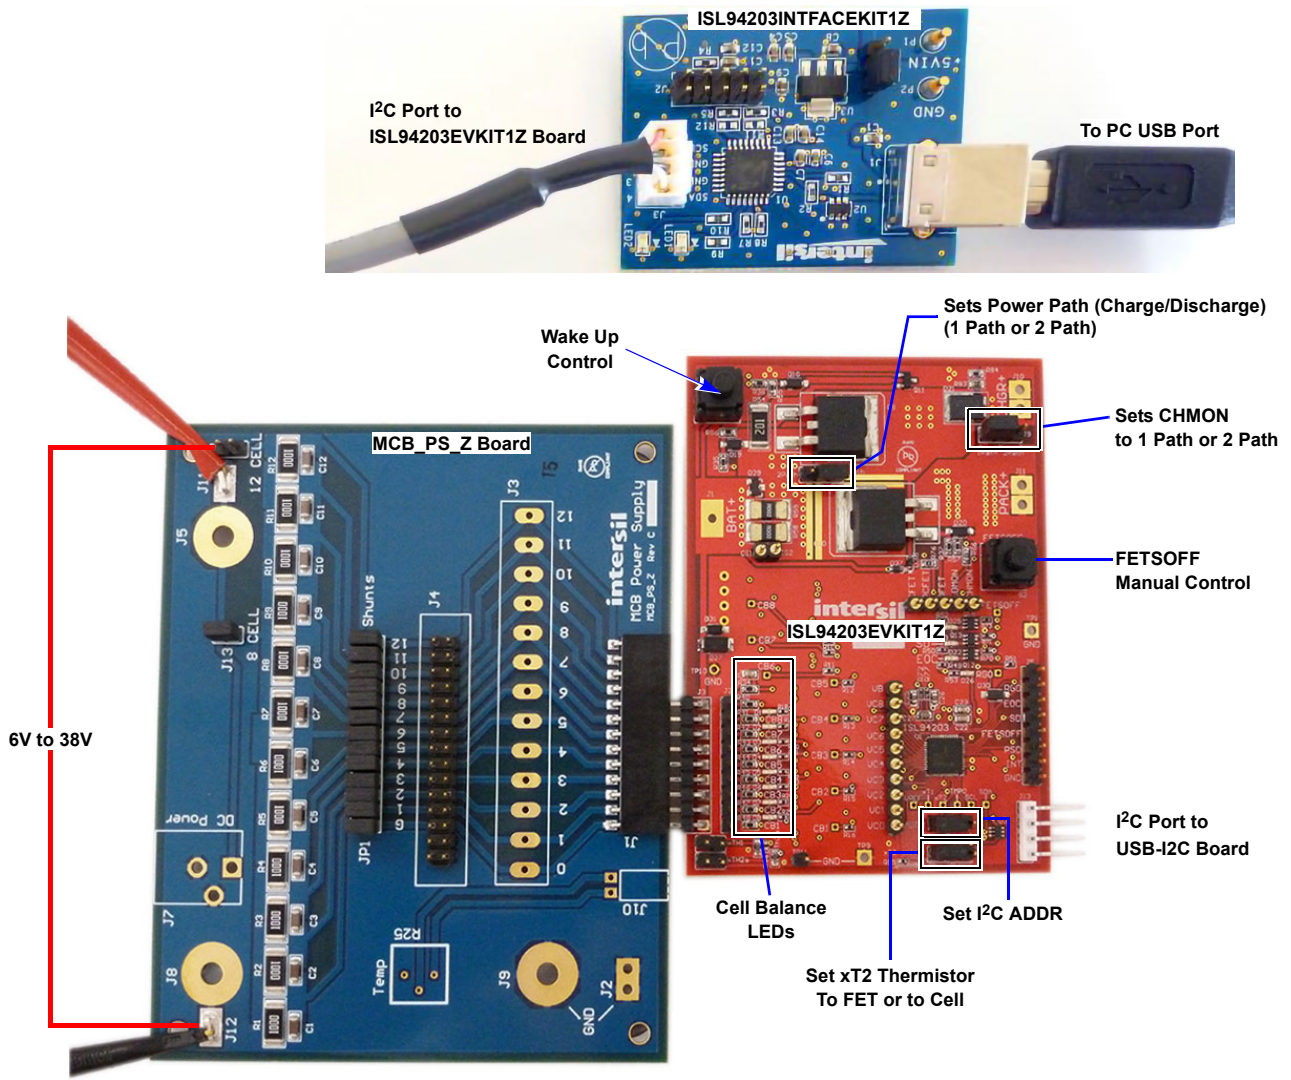

Figure 2. ISL94203EVKIT1Z Board Setup
2. Connect the power supply to the MCB\_PS\_Z board. The positive terminal is J5/J11 and the negative terminal is J8/J12. There should be a jumper on J13 as shown in Figure 2 on page 5.
5. Connect the ISL94203 board directly to the MCB\_PS\_Z board at connector J1. Make sure the board is connected on the ground side of J1 (see Figure 2).